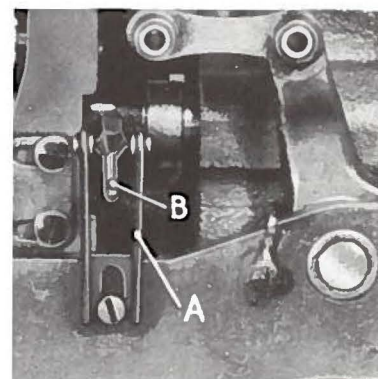

Fig. 10
The looper thread take-up eyelet (A, Fig. 10) should be set so that the take-up pin (B) begins to function when the loopers start their travel to the rear. The take-up eyelet should be set at the longest stitch to pull up a good stitch and should be lowered accordingly as the stitch is shortened.